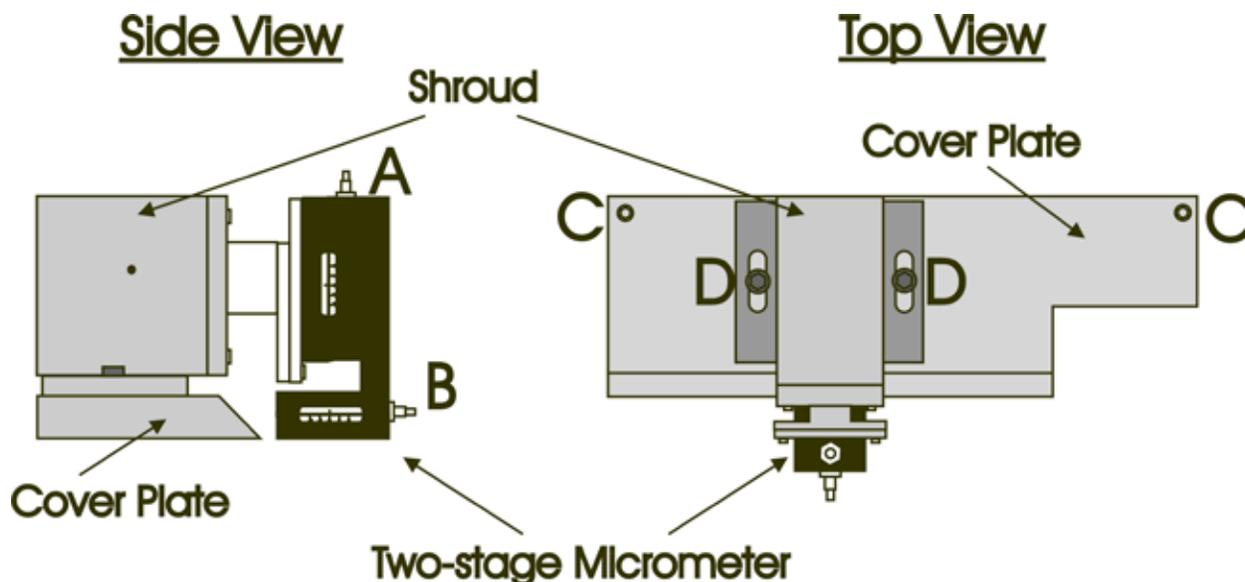
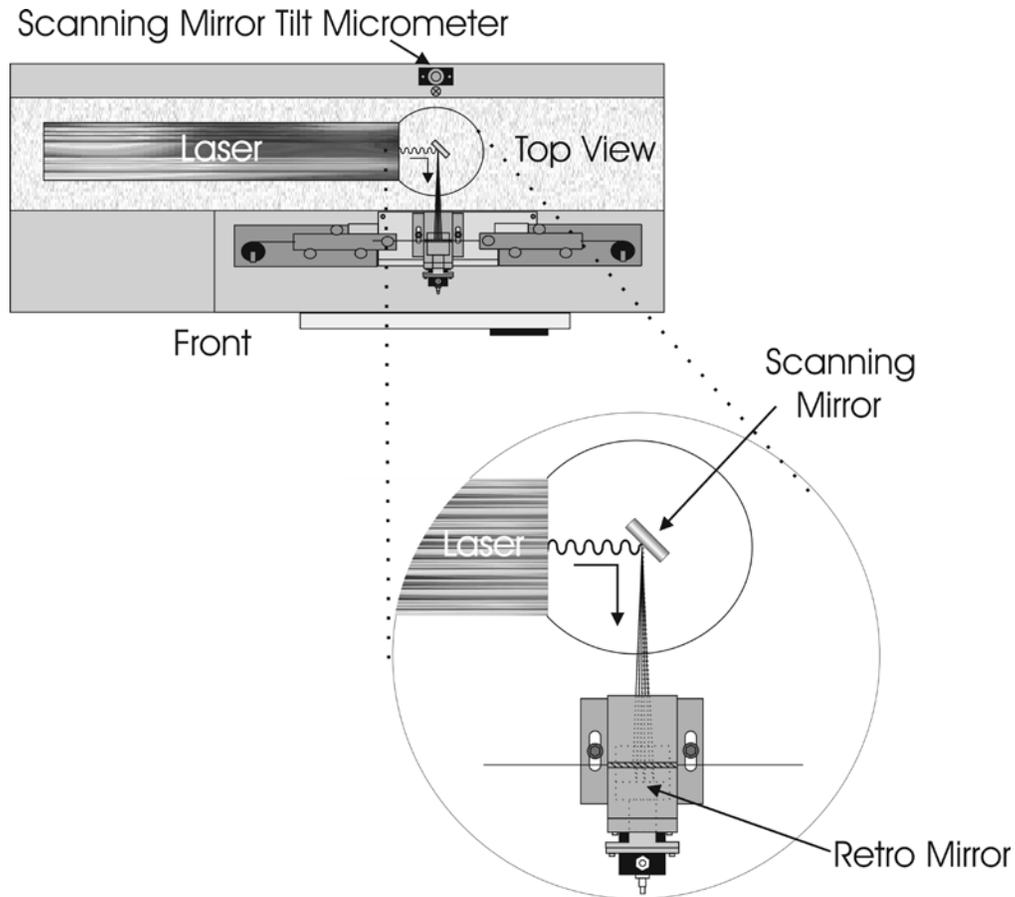
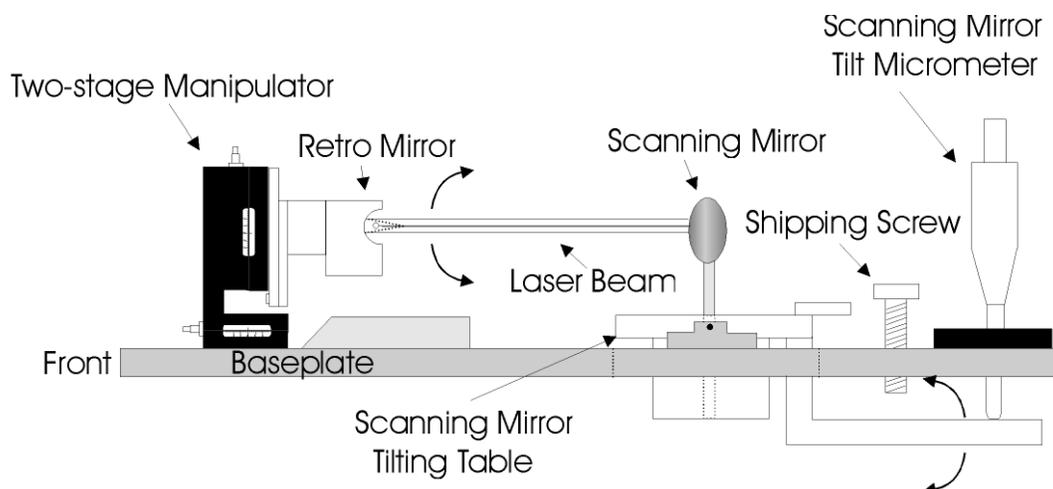

Figure 1-4. Retro Mirror Assembly
Figure 1-5. Optical Pathway (top view without laser housing).
Figure 1-6. Optical Pathway
- RETRO MIRROR** Covered by the SHROUD and not visible in Figure 1-4. See the Optical Pathway section and Figure 1-6 for details.
- SHROUD (Figure 1-4)** The SHROUD encloses the RETRO MIRROR and the optical pathway of the laser beam. This component is one of the safety features protecting the user from exposure to the laser beam. Access holes in the side of the SHROUD allow the glass to be loaded into the optical pathway of the laser. On a fiber puller, model P-2000/F, the “fiber” SHROUD access holes are connected by a slot to make loading the fiber more convenient. The SHROUD can be removed for inspection and cleaning of the RETRO MIRROR by unscrewing the two screws (labeled D in Figure 1-4) that hold it to the COVER PLATE and lifting the SHROUD straight up.
- TWO-STAGE MICROMETER (Figure 1-4)** The TWO-STAGE MICROMETER is used to align the RETRO MIRROR contained in the SHROUD. Alignment of the RETRO MIRROR has been performed at the factory and should not need readjustment. See the MAINTENANCE chapter for details on this procedure.
- COVER PLATE (Figure 1-4)** The cover plate conceals the entry of the PULLING CABLES into the BASE of the instrument. It is attached to the BASE PLATE by two screws (labeled C in Figure 1-4). The SHROUD, in turn, is anchored to the COVER PLATE.
The laser beam used to melt the glass in this instrument is directed as indicated in Figure 1-5, below. Each of the components necessary for defining the optical pathway of the laser beam are labeled in that figure and described in this section.
(Figure 1-5)
(Figure 1-5 & Figure 1-6)
SCANNING MIRROR TILT MICROMETER (Figure 1-6)
RETRO MIRROR (Figure 1-6)